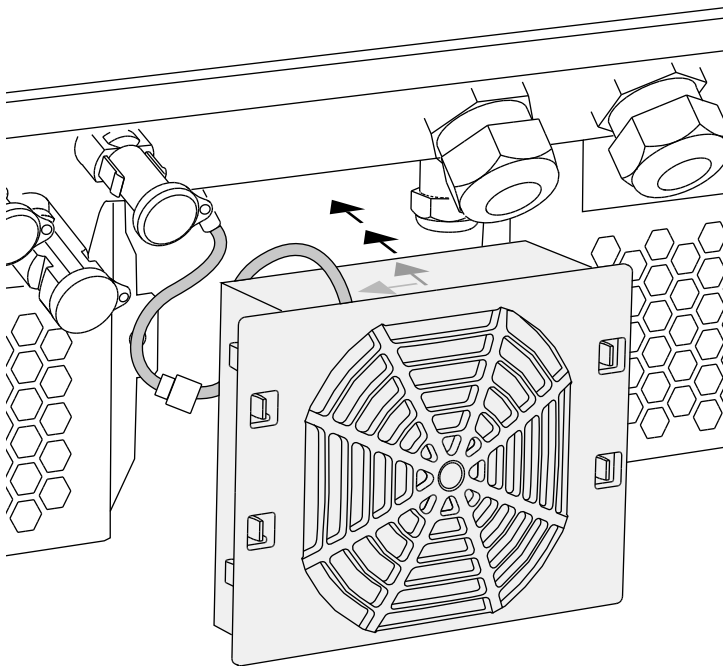

Fig. 72: Fan installation
- The fan must be correctly installed in the fan frame (air flow direction).  **Fig. 72**